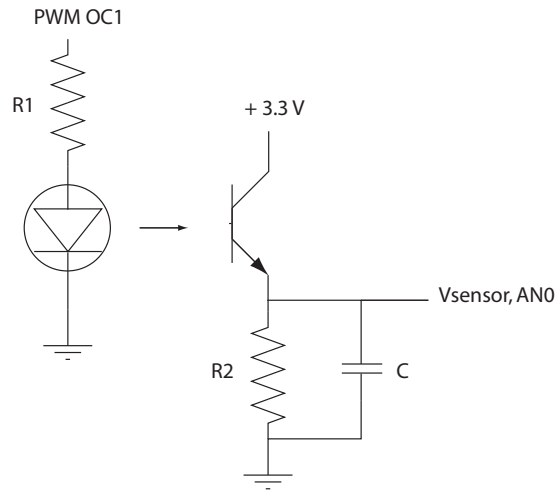

Figure 1: Circuit diagram for LED/Phototransistor,  $R1 = 100\Omega$ ,  $C = 10\text{nF}$ , see Question 1.1 (a) for  $R2$
- (b) Calibrating your sensor is an important step in control applications. For this assignment we are interested in the relationship between the PWM duty cycle at 20kHz and the brightness of the LED as measured by the phototransistor. Wire up the LED and phototransistor as in Figure 1 with  $R1 = 100\Omega$  and  $C = 10\text{nF}$ . You will treat  $R2$  as a design parameter in tuning the circuit. Ideally, your choice of  $R2$  would allow for the use of the full PWM duty cycle range without saturating the transistor under normal and dark lighting conditions. Instead,
For this assignment you can assume that you will always receive well-formatted inputs (i.e., the user is perfect and will not give your program invalid inputs). You should use `AN0` to read the output signal of the phototransistor and `OC1` to generate a PWM signal. If you haven't already, wire up your components as in Figure 1. In the circuit use  $R1 = 100\Omega$ ,  $C = 10\text{nF}$ , and use your value from Question 1(b) for  $R2$ . Here are the basics of the program: